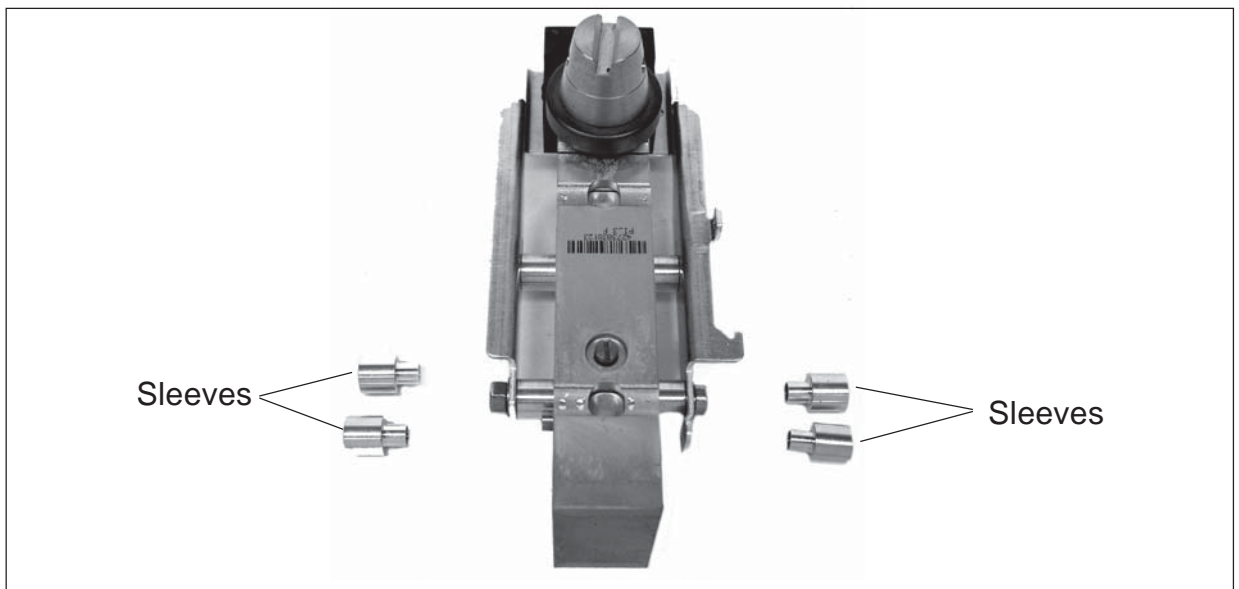

Figure 3-56. Removing the Aluminum Sleeves.
12. Remove the Aluminum Sleeves, see Figure 3-56. This completes the disassembly.
4. Refer to Figure 3-56 and replace the Aluminum Sleeves.